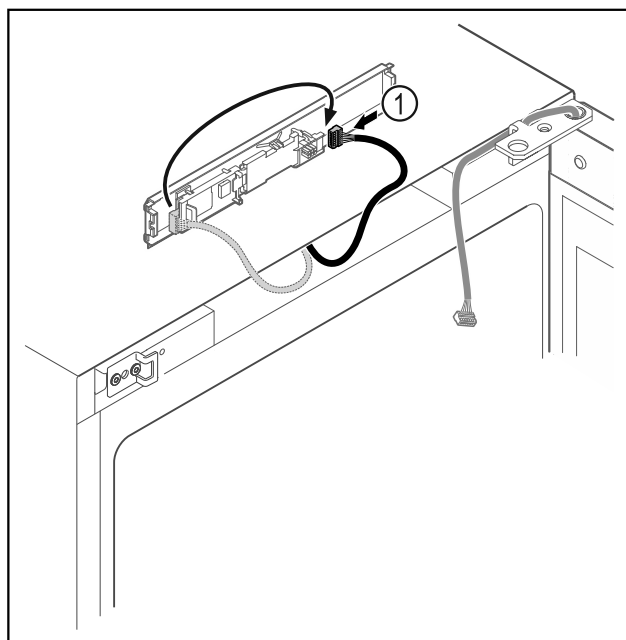

Fig. 7
- Connect the plug Fig. 7 (1) to the circuit board.